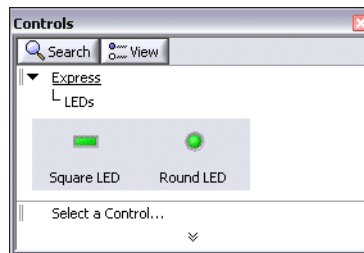

Figure 3-4. LEDs Palette
2. On the **Express** palette, select the **LEDs** palette, shown in Figure 3-4.